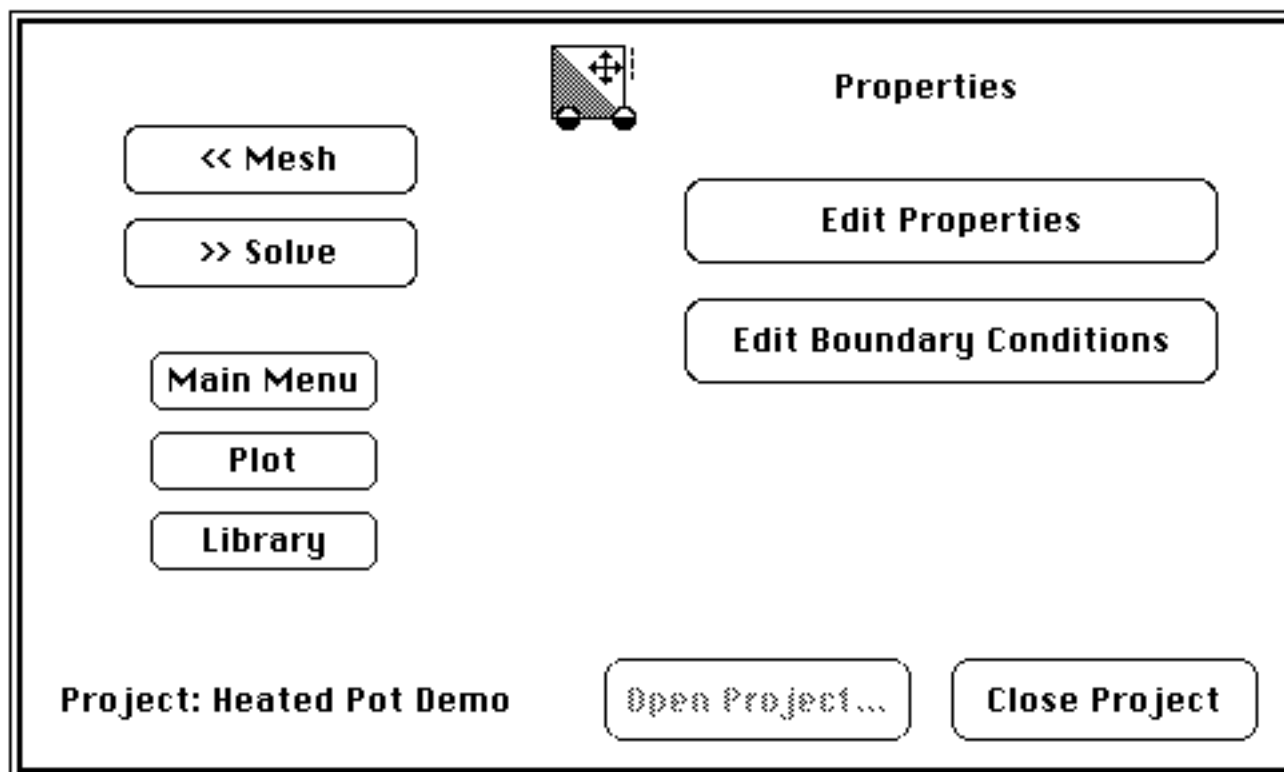
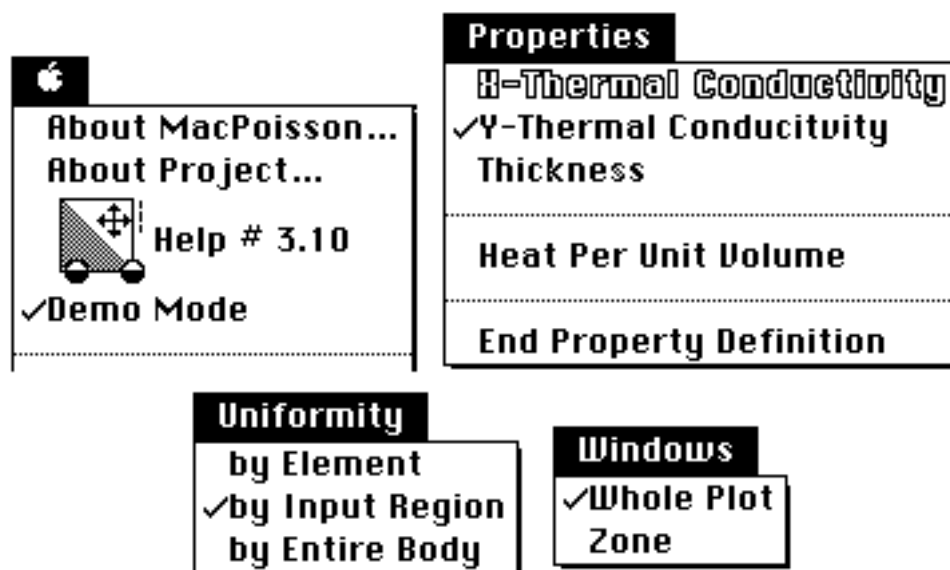

Fig 3.43 Properties module
Fig 3.45 Properties menu
You can enter properties and boundary conditions (Fig 3.43) in either order because MP does not combine the results until you leave this module. Note: The specific sequence for applying convection conditions is automatically observed by MP.
The file menu is unavailable until you return to the Properties module screen (Fig 3.43).
- Select the property type from the properties menu (Fig 3.45).
The properties listed on the menu can vary from element to element, vary only by mesh generating region, or be uniform throughout the problem. Use the Uniformity menu to set the largest unit of uniformity. If you select “by Element”, MP creates the required data structures. If the properties are uniform except for a few elements, first select “by Entire Body” (Fig 3.45) to make the global assignment and then use “by Element” to revise the exceptions.
- Select Whole Plot from the Windows menu (Fig 3.45).
Note: Enter distributed sources (Fig 3.45) in this submodule; enter line sources in the boundary conditions submodule.
- Select End Property Definition from the Properties menu (Fig 3.45) to return to the properties module screen (Fig 3.43).
- Click No or Cancel to abandon the data and return to the properties module menu (Fig 3.43),
MP returns you to the Properties module screen (Fig 3.43).
If you have not selected a project, the Open Project button is enabled on the Properties module screen (Fig 3.43). You must follow the usual steps to open a project file. If you have not previously created data files for this module, the Properties and Boundary Conditions buttons will read “Enter”, rather than “Edit”.
- Select Edit (Fig 3.43).